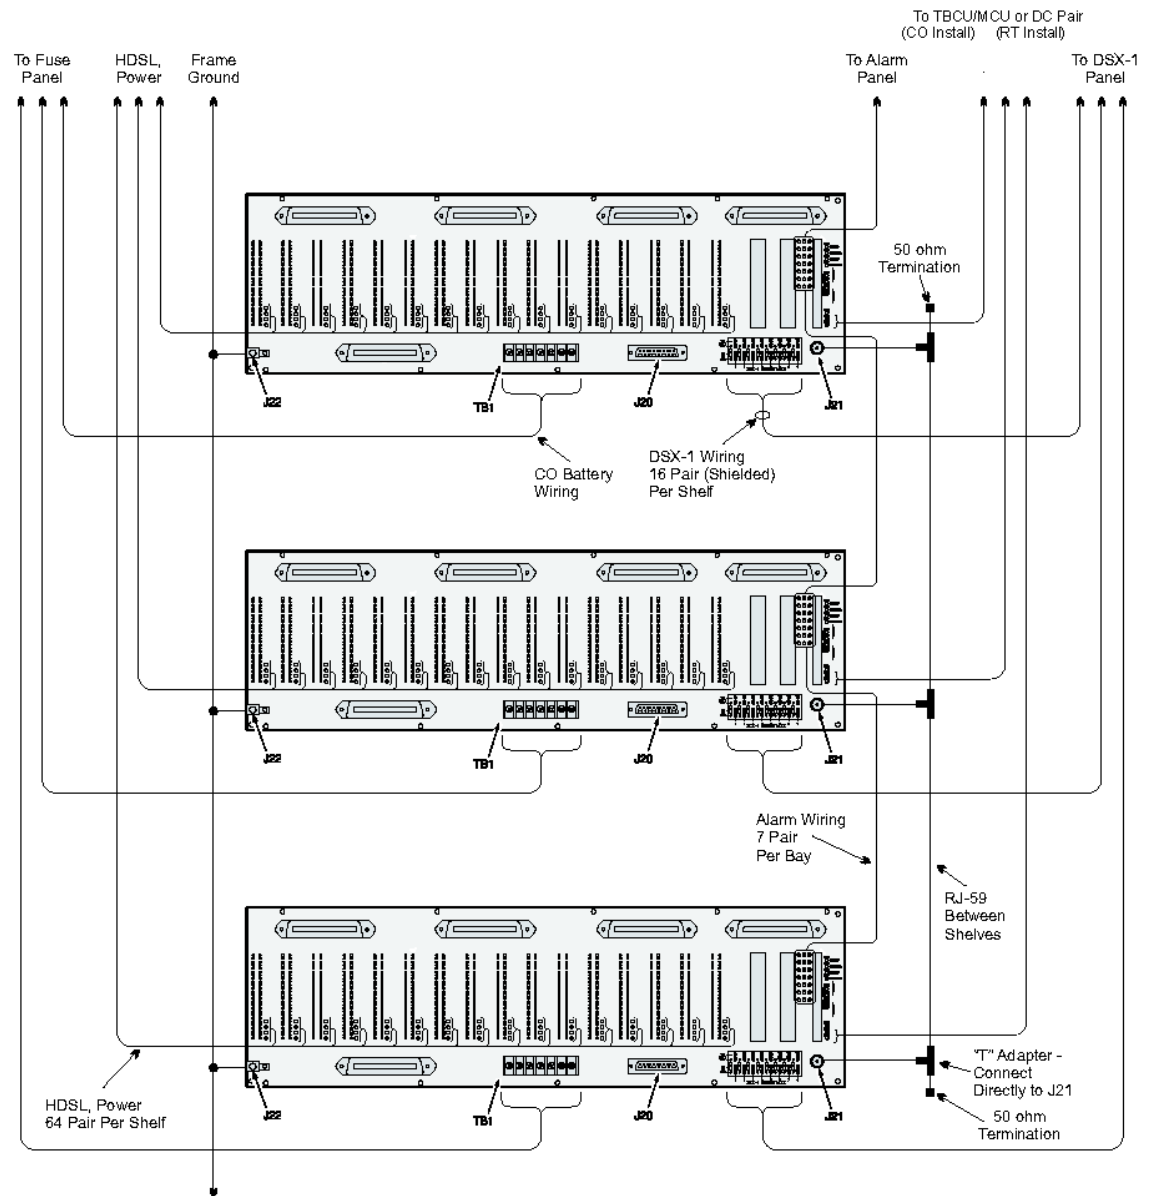
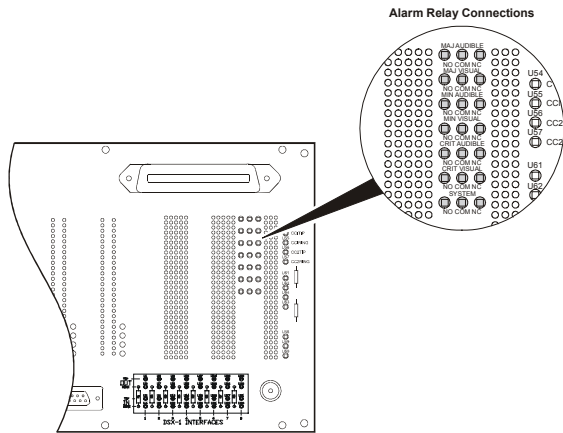

Figure 2. PCS-719 COT Shelf Integrated DLC Wiring Block Diagram
Figure 6. Alarm Terminations
Figure 2 provides a block diagram of the PCS-719 Shelf wiring required to support the IDLC system.
The PCS-719 COT Shelf can be wired for single or redundant powering. The input current, shelf fuse recommendation, and heat dissipation are listed in Table 1. CO battery wiring for each COT Shelf goes directly to the equipment bay fuse panel (Figure 2).
2. Connect each shelf with an RG-58 cable (Figure 2 on page 2).
3. Terminate the unused connection on the far end of each BNC "T" adapter with a 50 Ω termination resistor (Figure 2 on page 2).
Refer to Figure 6 for the location of the alarm wire-wrap posts and Figure 2 on Page 2 for inter-shelf wiring of these alarms.